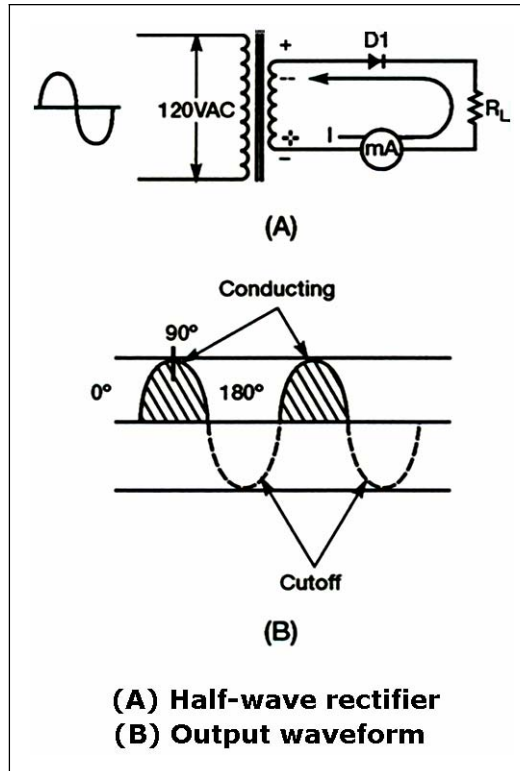

Figure 4-3. Simple Half-wave Rectifier
4-8. Since a silicon diode will pass current in only one direction, it is ideally suited for converting AC to DC. When AC voltage is applied to a diode, the diode conducts ONLY ON THE POSITIVE ALTERNATION OF VOLTAGE; that is, when the anode of the diode is positive in respect to the cathode. This simplest type of rectifier is the half-wave rectifier. Figure 4-3, view (A), shows that the half-wave rectifier uses only one diode. During the positive alternation of input voltage, the sine wave applied to the diode makes the anode positive with respect to the cathode. The diode then conducts, and current (I) flows from the negative supply lead (the secondary of the transformer), through the milliammeter, through the diode, and to the positive supply lead. As indicated by the shaded area of the output waveform in view (B), this current exists during the entire period
4-9. During the negative alternation of input voltage (dotted polarity signs), the anode is driven negative and the diode cannot conduct. When conditions such as these exist, the diode is in cutoff and remains in cutoff for 180 degrees. During this time, no current flows in the circuit. The circuit current therefore has the appearance of a series of positive pulses (see shaded areas on the waveform in Figure 4-3, view (B)). Notice that although the current is in the form of pulses, the current always flows in the same direction. Current that flows in pulses in the same direction is called PULSATING DC. The diode has thereby RECTIFIED the AC input voltage.